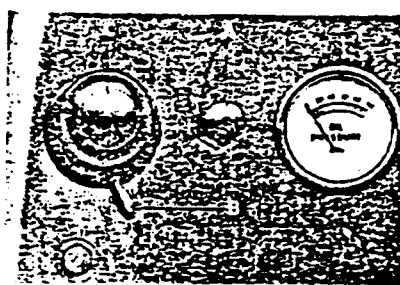

FIG. 28.
The combined switches to operate all the above services, and electric horn button are shown in Fig. 28.
**Horn:** A horn is provided on the Full Industrial and Council Type Tractors, TE-P/R/S/T20, and the press button combines with the lighting switch (See Fig. 28).